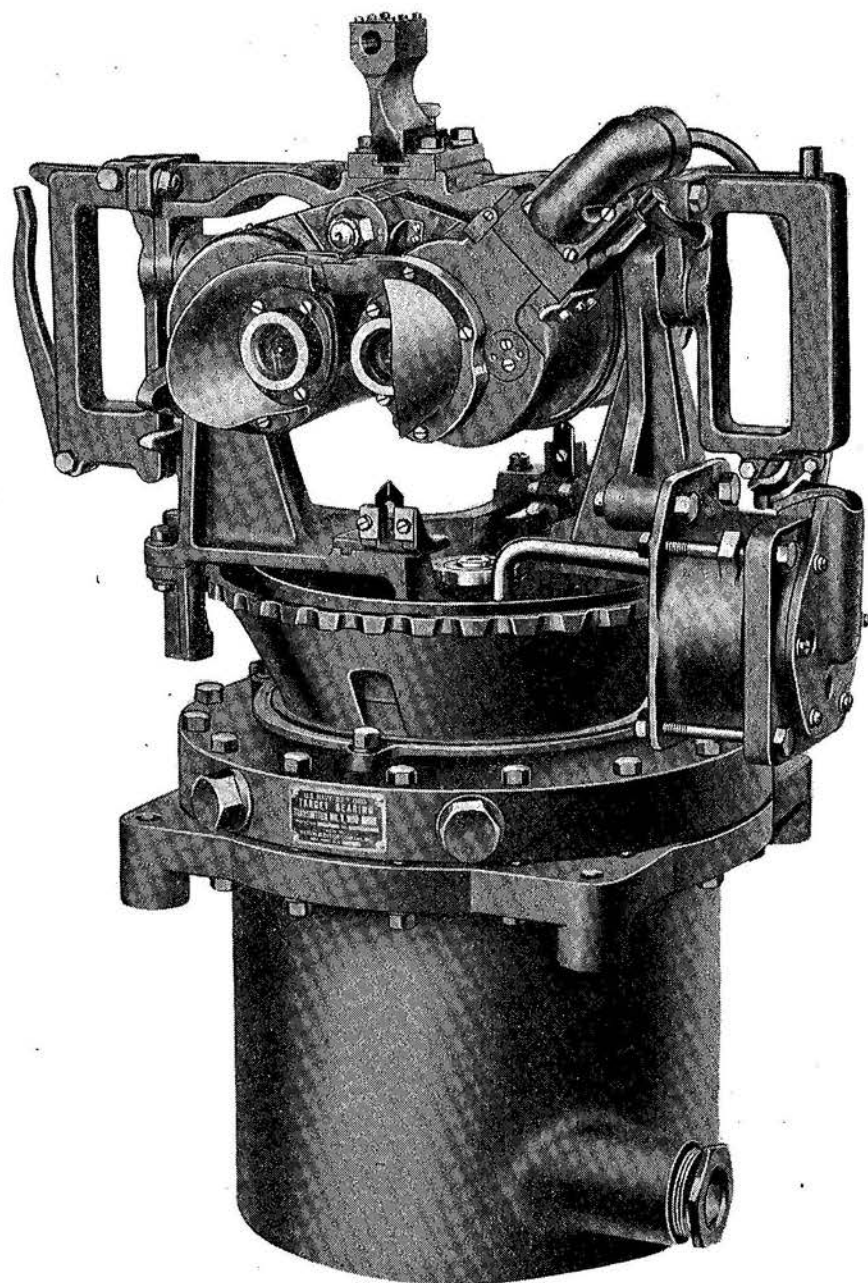

Figure 100.—Target Bearing Transmitter Mark 8
4. It is to be noted that illustration numbers in the Catalog Section begin with Figure 100 (see page 66).